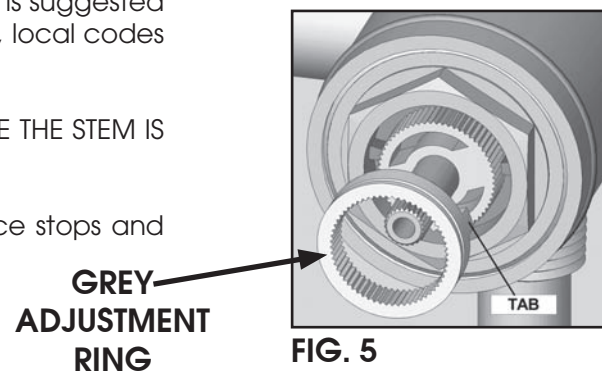

FIG. 5
4. Remove the Grey Adjustment Ring by placing the blade of a thin screwdriver into the groove and prying it off. FIG. 5